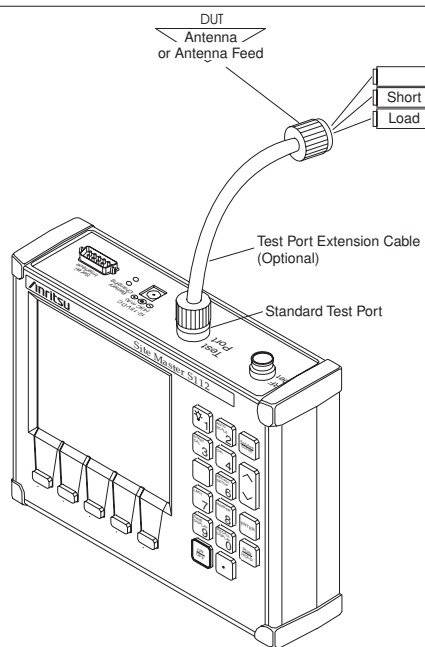

Figure 2-9. Measurement/Calibration Test Setup
“Connect LOAD, Press ENTER” instructions that appear in the message area. Connect the respective Open, Short, and Load component to the end of the Test Port Extension Cable (Figure 2-9) prior to pressing ENTER.
- Step 7.** Perform a measurement calibration, using the **START CAL** key. Select **CAL A** or **CAL B**. Follow the ensuing “Connect OPEN, Press ENTER,” “Connect SHORT, Press ENTER,” and “Connect LOAD, Press ENTER” instructions that appear in the message area. Connect the respective Open, Short, and Load component to the end of the Test Port Extension Cable (Figure 2-9, page 2-25) prior to pressing **ENTER**.